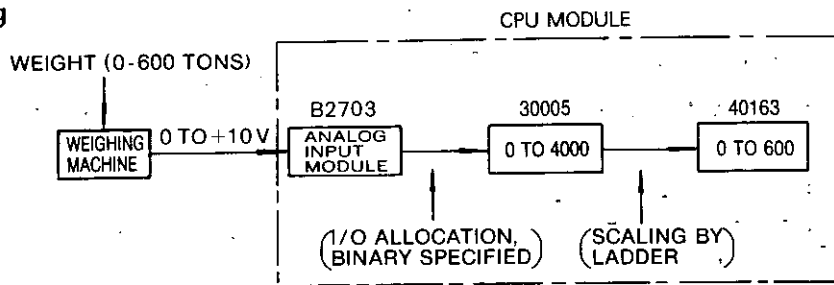

Fig. 5.37 Reading Analog Signal and Scaling
- Assume that a voltage signal of 0 to +10 V comes from the weighing machine to the analog input module B1075-1, as shown in Fig. 5.37, which converts the voltage signal to a numeric data of 0 to 4000 and enters it in input register 30005.